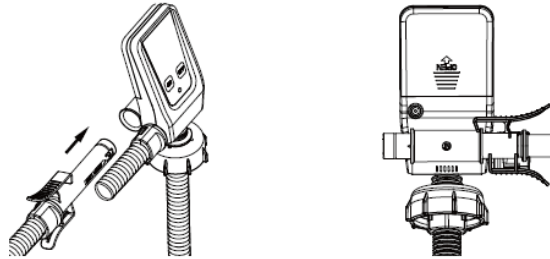

Figure 3
6. Put the discharge nozzle in the discharge nozzle compartment and lock into place with clip as shown in Figure 3.